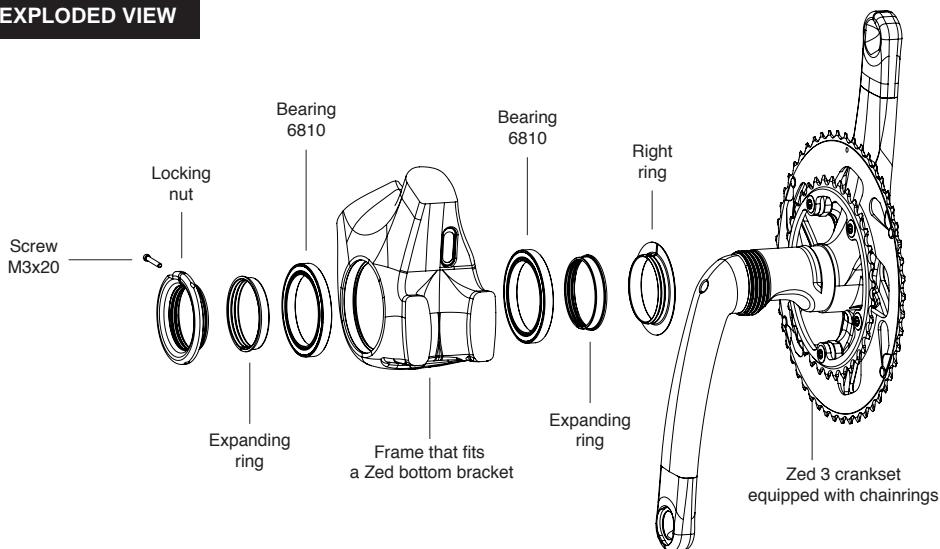

Fig 1
- Before attaching the crankset to the frame, check that there are no parts missing from the whole set that is pre-fitted on the crankset (see figures 1 and 9).